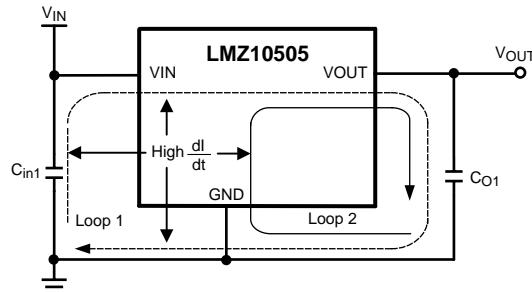

Figure 29. Critical Current Loops to Minimize
From an EMI reduction standpoint, it is imperative to minimize the high di/dt current paths. The high current that does not overlap contains high di/dt , see Figure 29. Therefore physically place input capacitor (C_{int1}) as close as possible to the LMZ10505 VIN pin and GND exposed pad to avoid observable high frequency noise on the output pin. This will minimize the high di/dt area and reduce radiated EMI. Additionally, grounding for both the input and output capacitor should consist of a localized top side plane that connects to the GND exposed pad (EP).